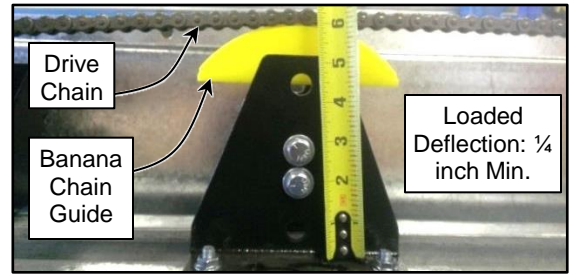

Figure 24
5. With the door in the fully closed position, check the tension of the drive chain by measuring the offset of the chain tensioner banana guide. A properly tensioned chain will have a slight amount of deflection at its midpoint and the deflection of the banana guide when the drive chain is installed on it must be ¼ inch. The chain should be taught but not tight. (See Figure 24)